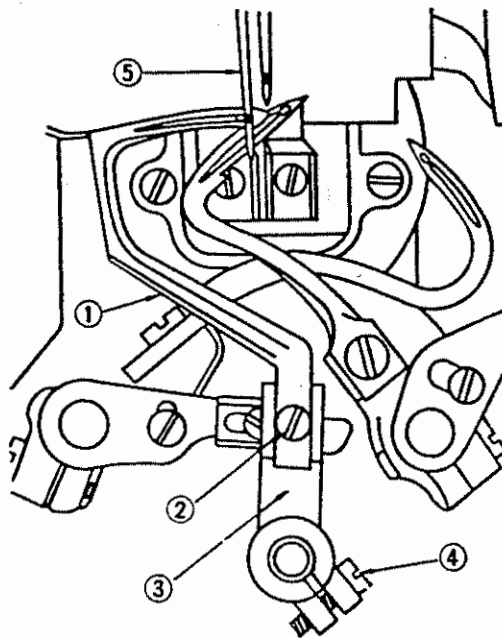

Fig. 28
#### 4. How to set the safety stitch needle to the safety stitch looper (Fig. 28, a, b, c, d, e)
Fig. 28 a
Fig. 28 b
Next, as shown in Fig. 28 a, determine the position of the looper so that when the safety stitch looper ① advances, the thread hole of the
looper will line up on the left side of the needle eye at same height. Then, tighten the set screw ④ (Fig. 28) firmly.
When the safety stitch looper retreats, the blade point of the looper comes between the center of the needle eye and the upper part of the needle eye as shown in Fig. 28 b.
If, after having been set as shown in Fig. 30a, it still does not conform to Fig. 28c, it will be necessary to change the timing. To do so, remove the frame top cover ⑥ (Fig. 5), and adjust by loosening the eccentric cam set screw ①, (Fig. 28 e).
Fig. 28 c
Fig. 28 d
Fig. 28 e